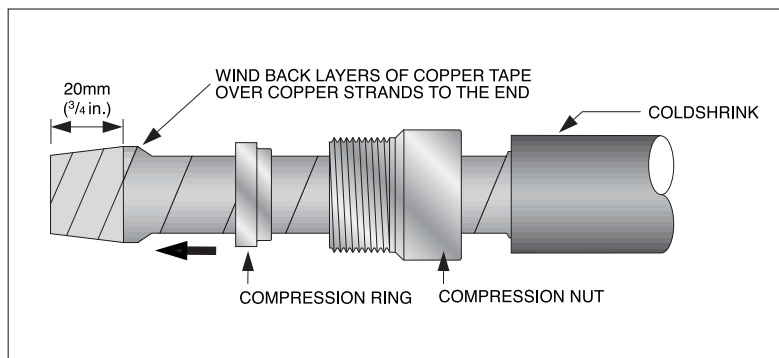

Figure 24: The termination coupling is fitted to the downconductor ready for the main coupling body to be fitted.
16. Rewrap the outer double layer of copper tape into place over the copper strands. Push the compression ring back up over the wrapped copper strands and up against the cone (see Figure 24 on page 37).